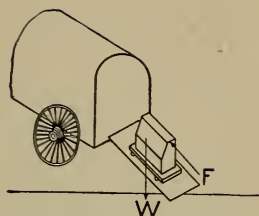

FIGURE 264.—AN INCLINED PLANE USED TO LOAD A PIANO INTO A TRUCK.
**285. Applications of Inclined Plane.**—There are many applications of the inclined plane. Figure 264 shows an inclined plane used for loading a piano into a truck. A heavy plank is used for the plane and the height of the truck is the height of the plane. By this means one or two men can push the piano into the truck.